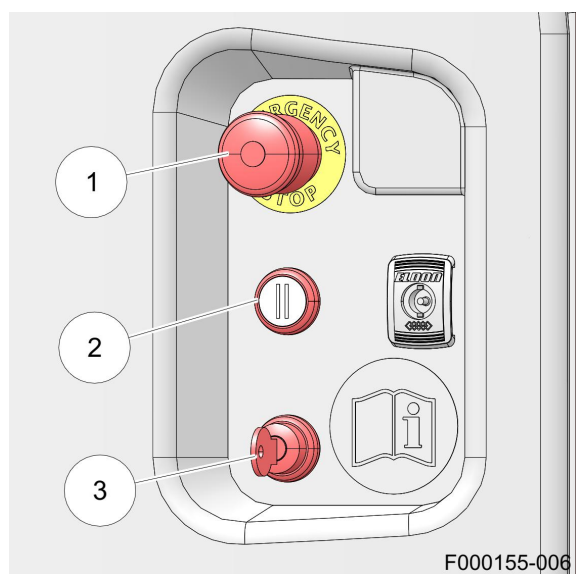

Figure 41. Pause button
1. When the Mixing and Feeding Robot was taken out of operation with the pause button: Push the pause button (2) (see figure 41 on page 5-5).